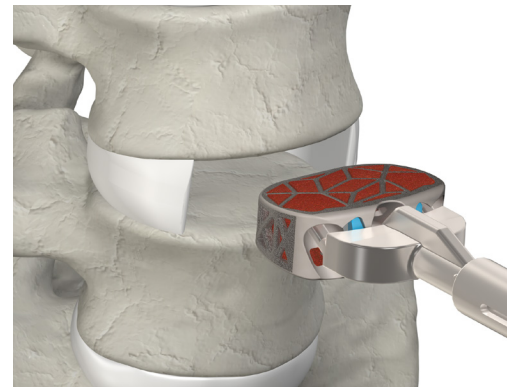

Figure 40
- ▲ Once distracted the implant may be removed by using either the inserter (Fig. 40). If necessary, the Slap Hammer can be attached to the inserter for additional removal force.